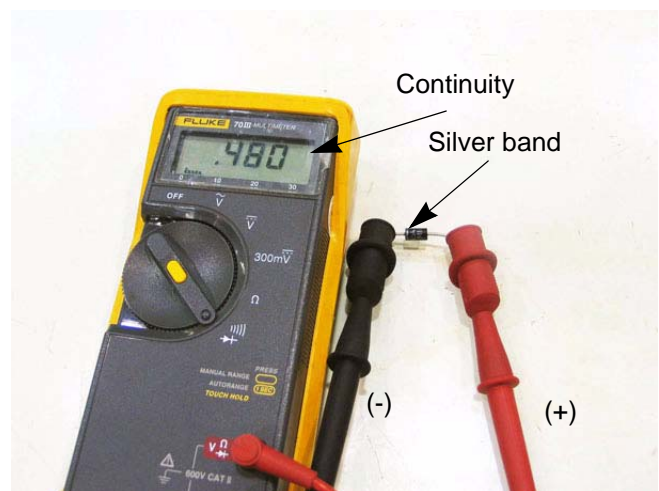

Figure 7.62
5. There should be continuity. See Figure 7.62.